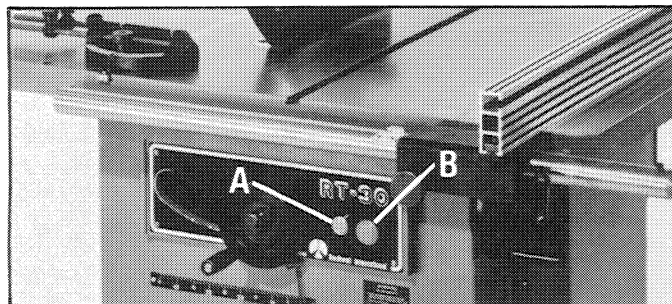

Fig. 35
The start stop switch is located on the front of the machine for easy accessibility. To start the machine simply press the smaller green button (A) Fig. 35, and to stop the machine, press the larger red stop button (B).